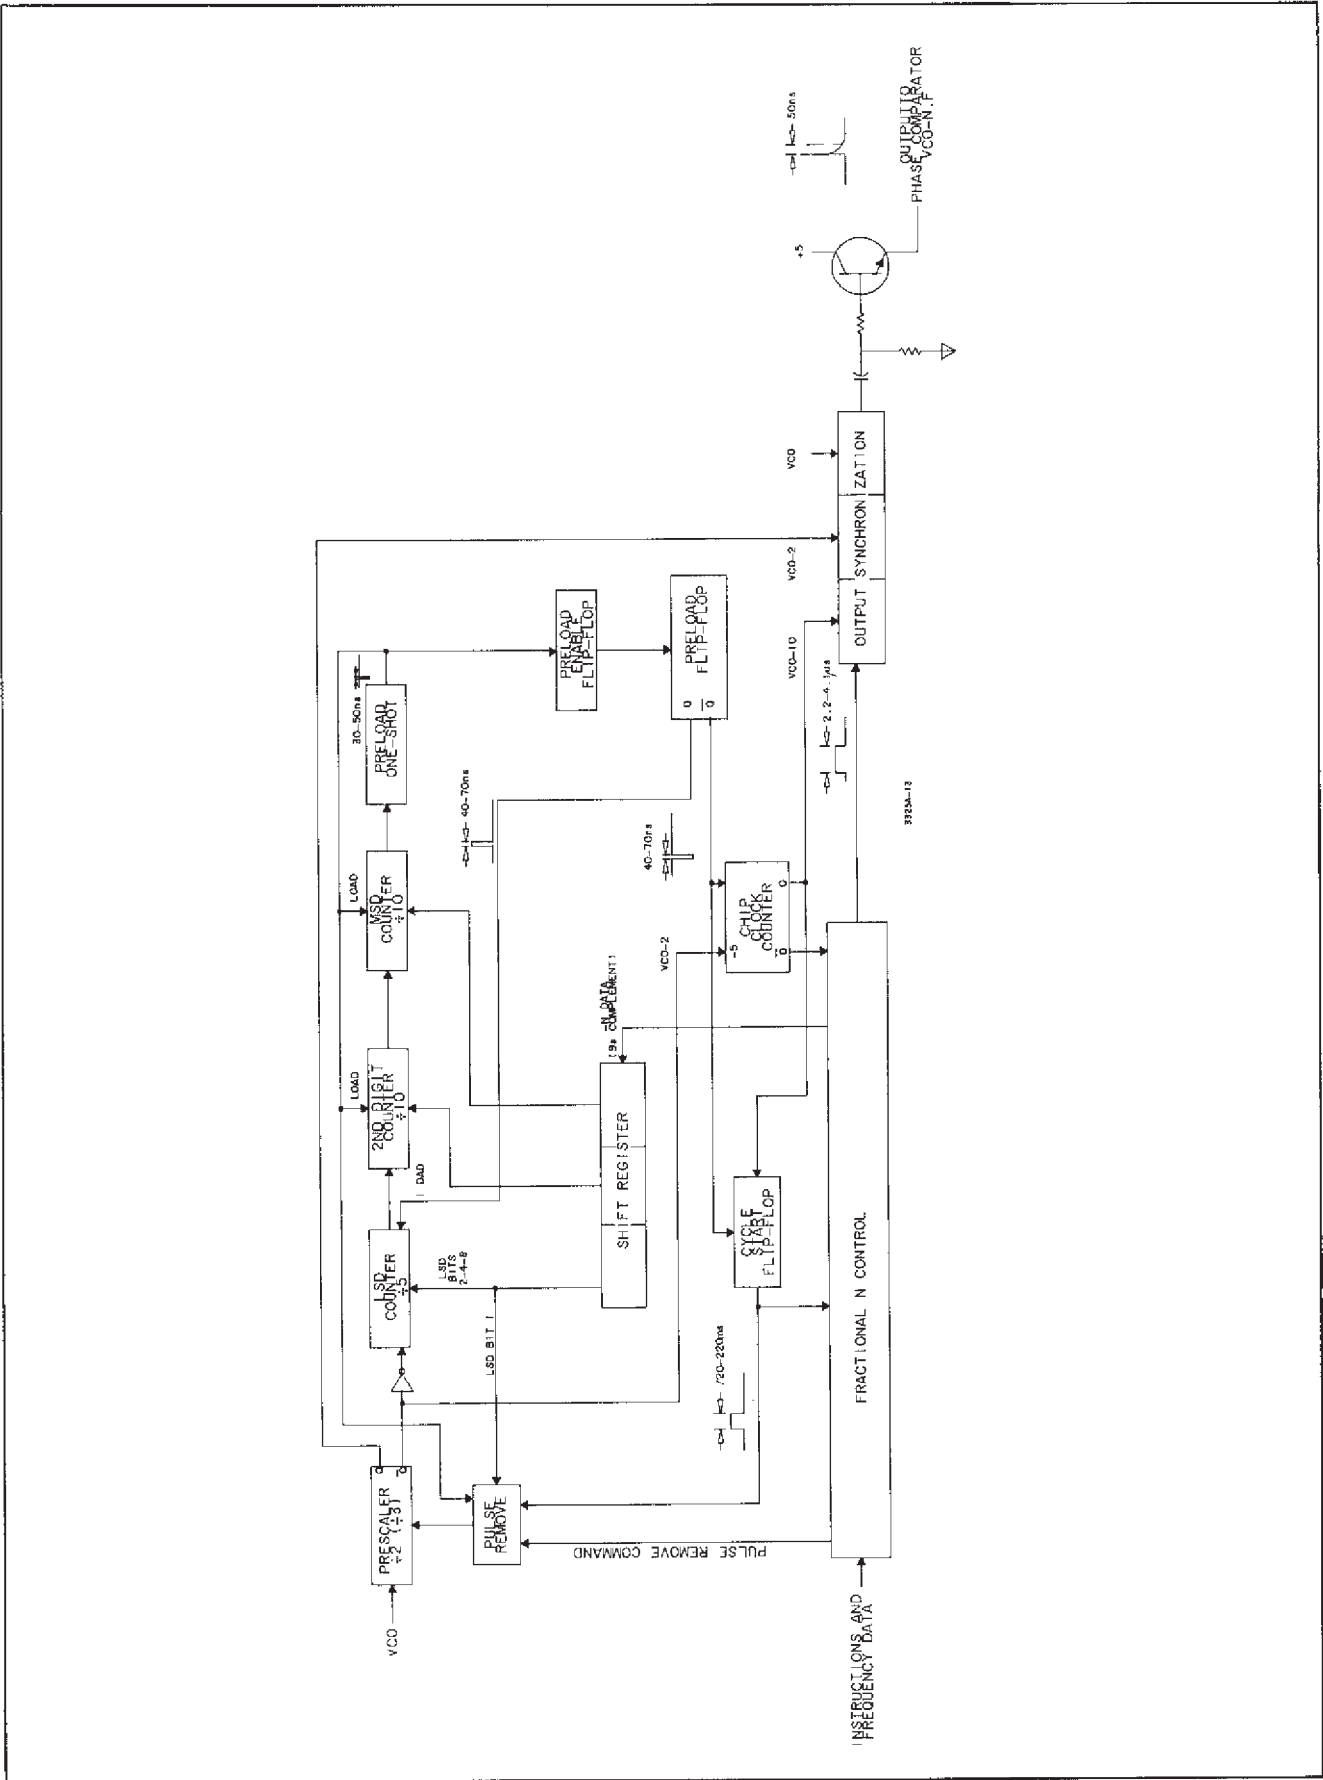

Figure 8-13. Divide by N Counter.
**8-37. Fractional N Counter.** The  $\div N$  (Fractional N) counter consists basically of three presettable counters in series, shown in Figure 8-13. The counters for the two most significant digits (of the 3-digit N number) are decade counters. The least significant digit counter consists of a  $\div 5$  counter and a  $\div 2$  prescaler which can be made to divide by three as necessary. Presettable counters are used because  $\div N$  must be variable, as explained below.
8-41. The chip clock counter output (Figure 8-13) is the prescaler output divided by five. The  $\bar{Q}$  output from this counter goes to the fractional  $N$  control IC and is used to clock data in and out of the four shift registers within the IC. The counter  $Q$  output is used in the  $\div N.F$  counter output synchronization and to clock the cycle start flip-flop.